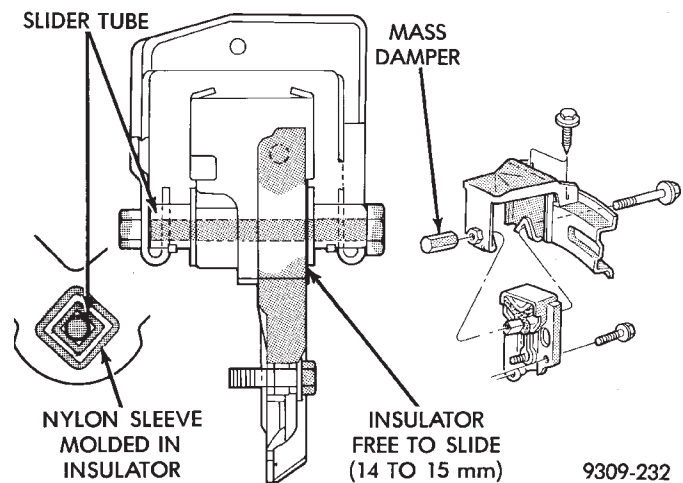

Fig. 3 Left Insulator Movement
- (1) Raise vehicle on hoist and remove left front wheel.
- (2) Remove inter splash shield.
- (3) Support the transmission with a transmission jack.
- (4) Remove the insulator thru bolt from the mount.
- (5) Remove the transmission mount fasteners and remove mount.
- (6) Reverse removal procedure for installation. Ensure that the slide tube is seated into the rail bracket guides. Refer to (Fig. 3) for bolt tightening specifications.
- (7) Engine mount adjustment, Refer to Engine Mount Insulator Adjustment of this section.
Check and reposition right engine mount insulator (left engine mount insulator is floating type and will adjust automatically (Fig. 3). Adjust drive train position, if required, for the following conditions: